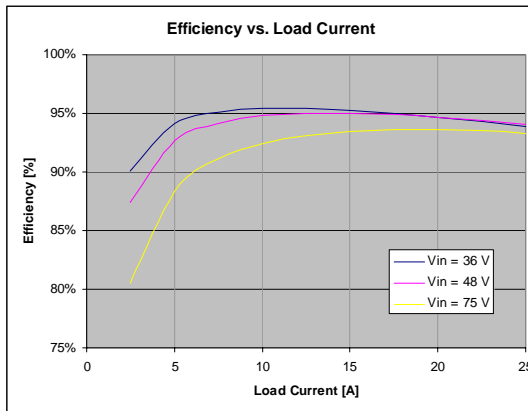

Figure 5: Efficiency curves at $T_A = 25^\circ\text{C}$.
5. Refer to Figure 5 for the efficiency curves.